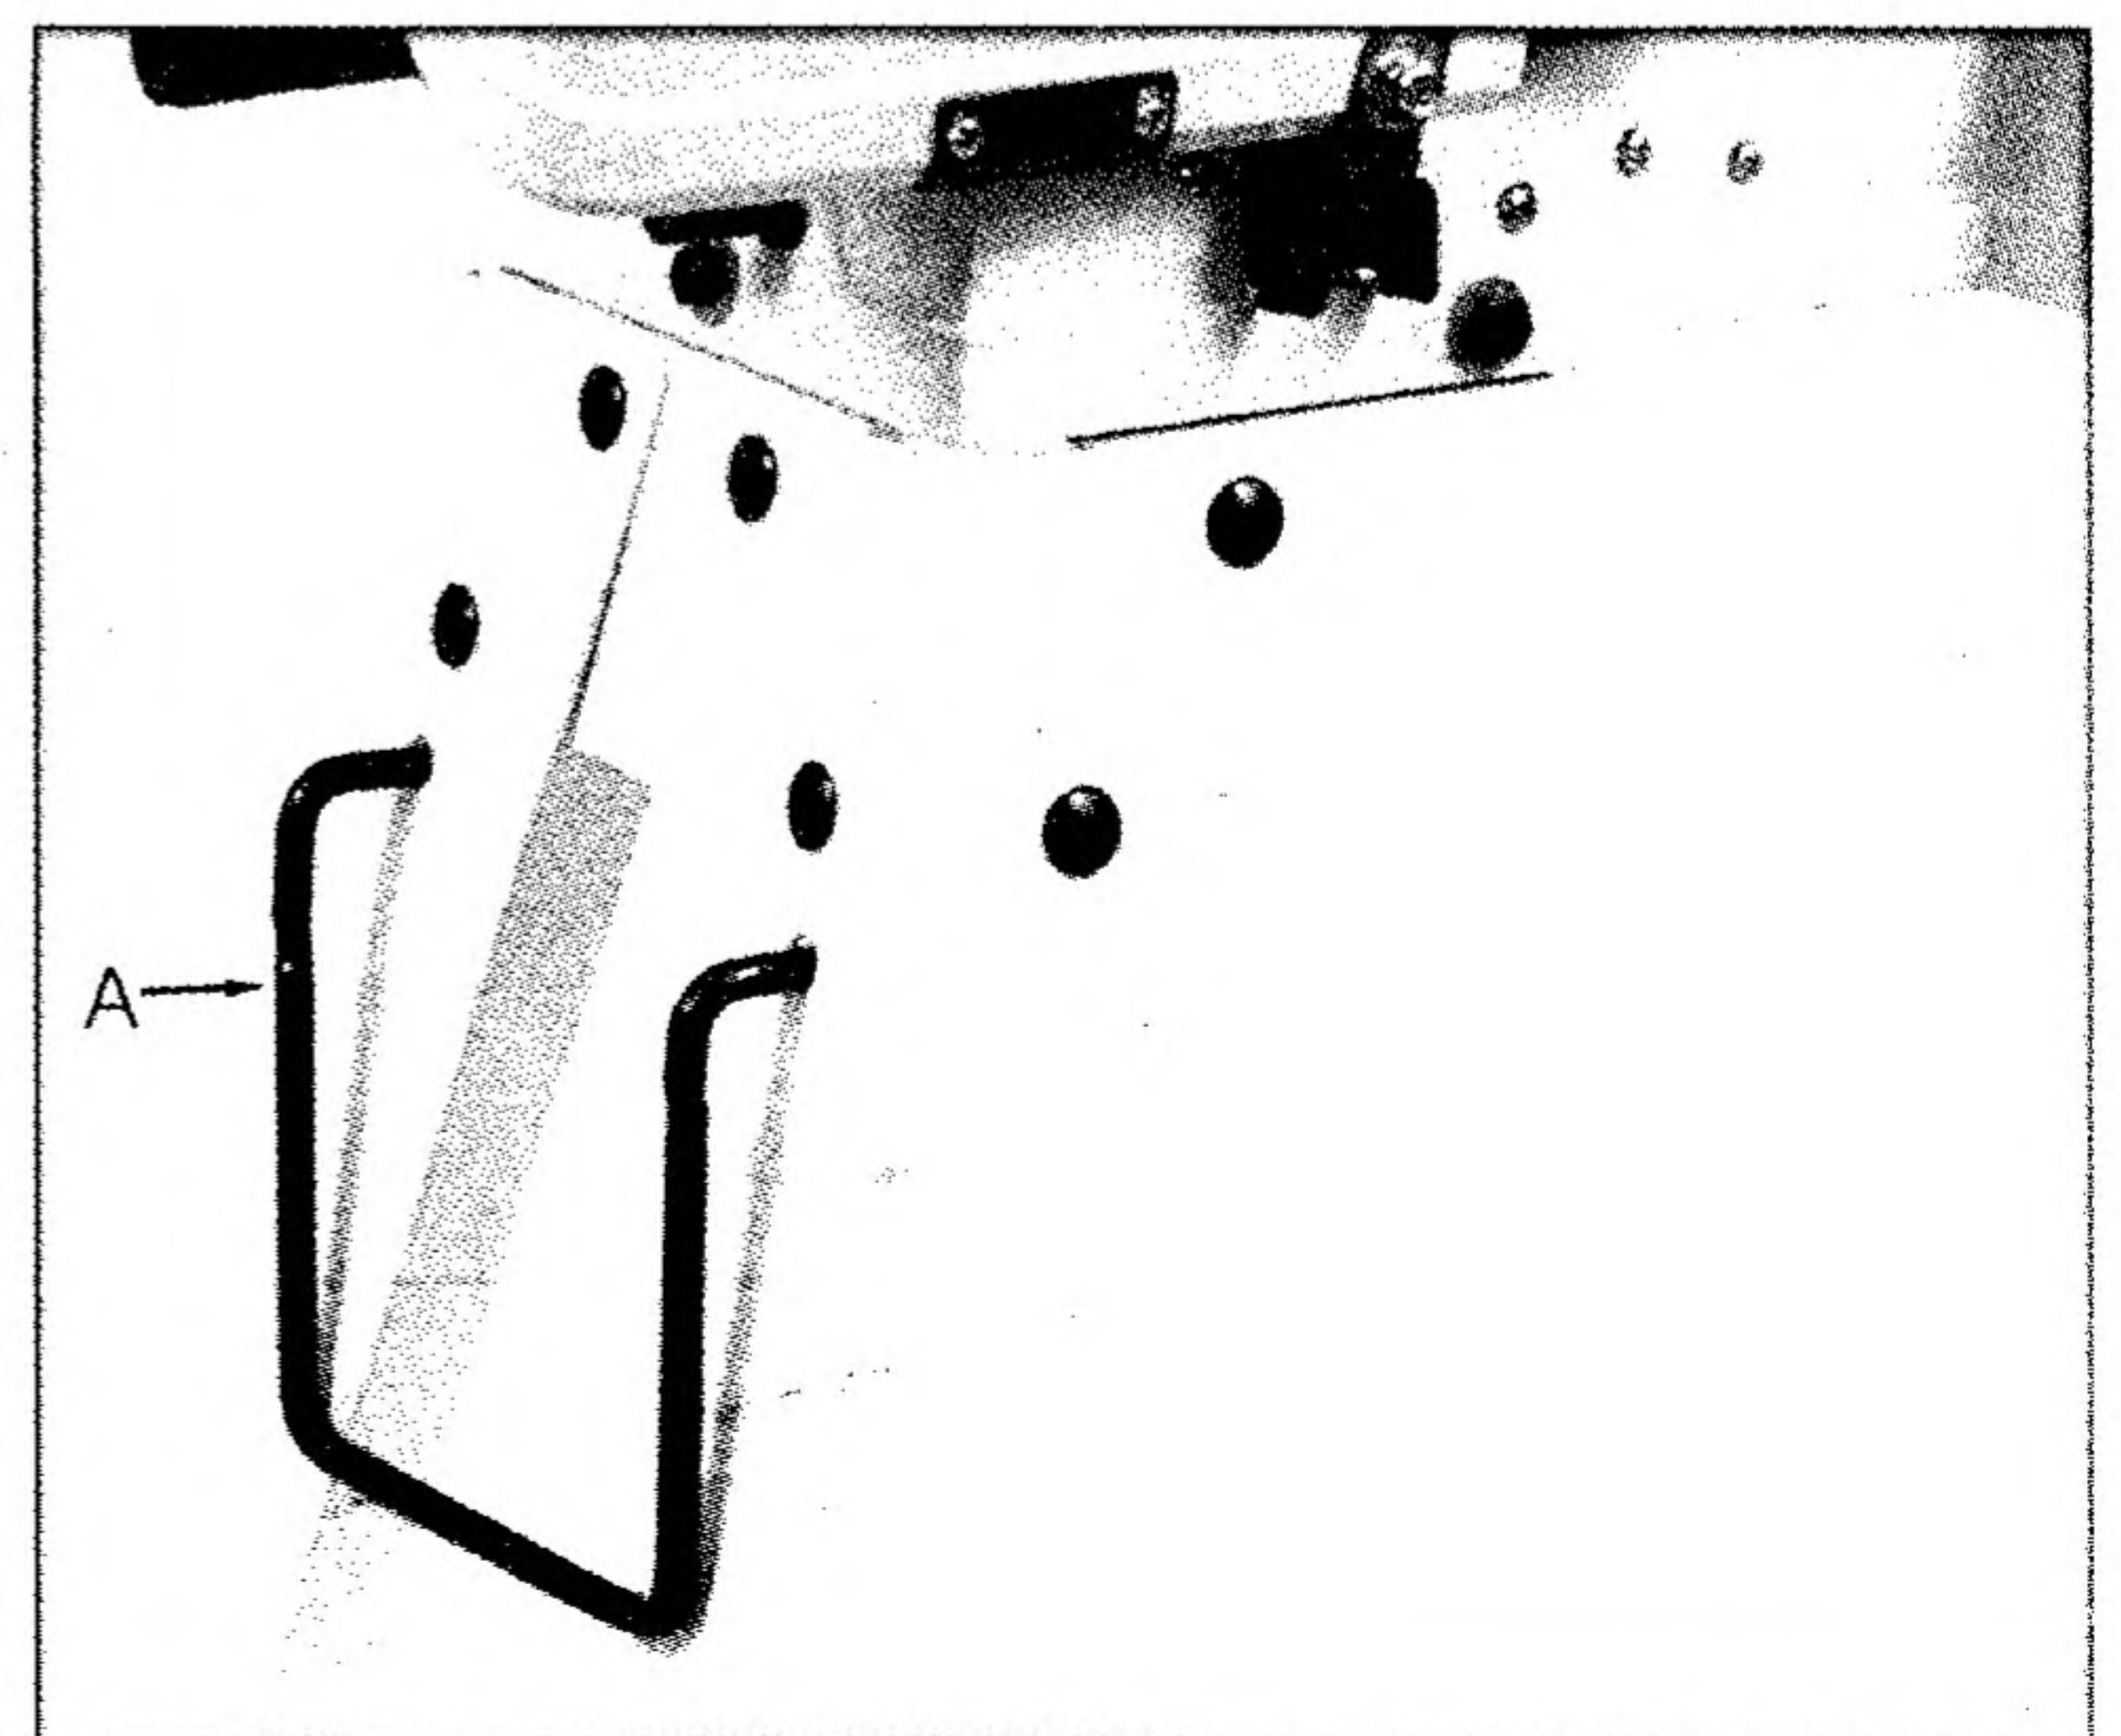

Fig. 4
10. Put the handle (A, Fig. 4) through holes in the stand legs opposite of the wheel assembly and secure with split pins.